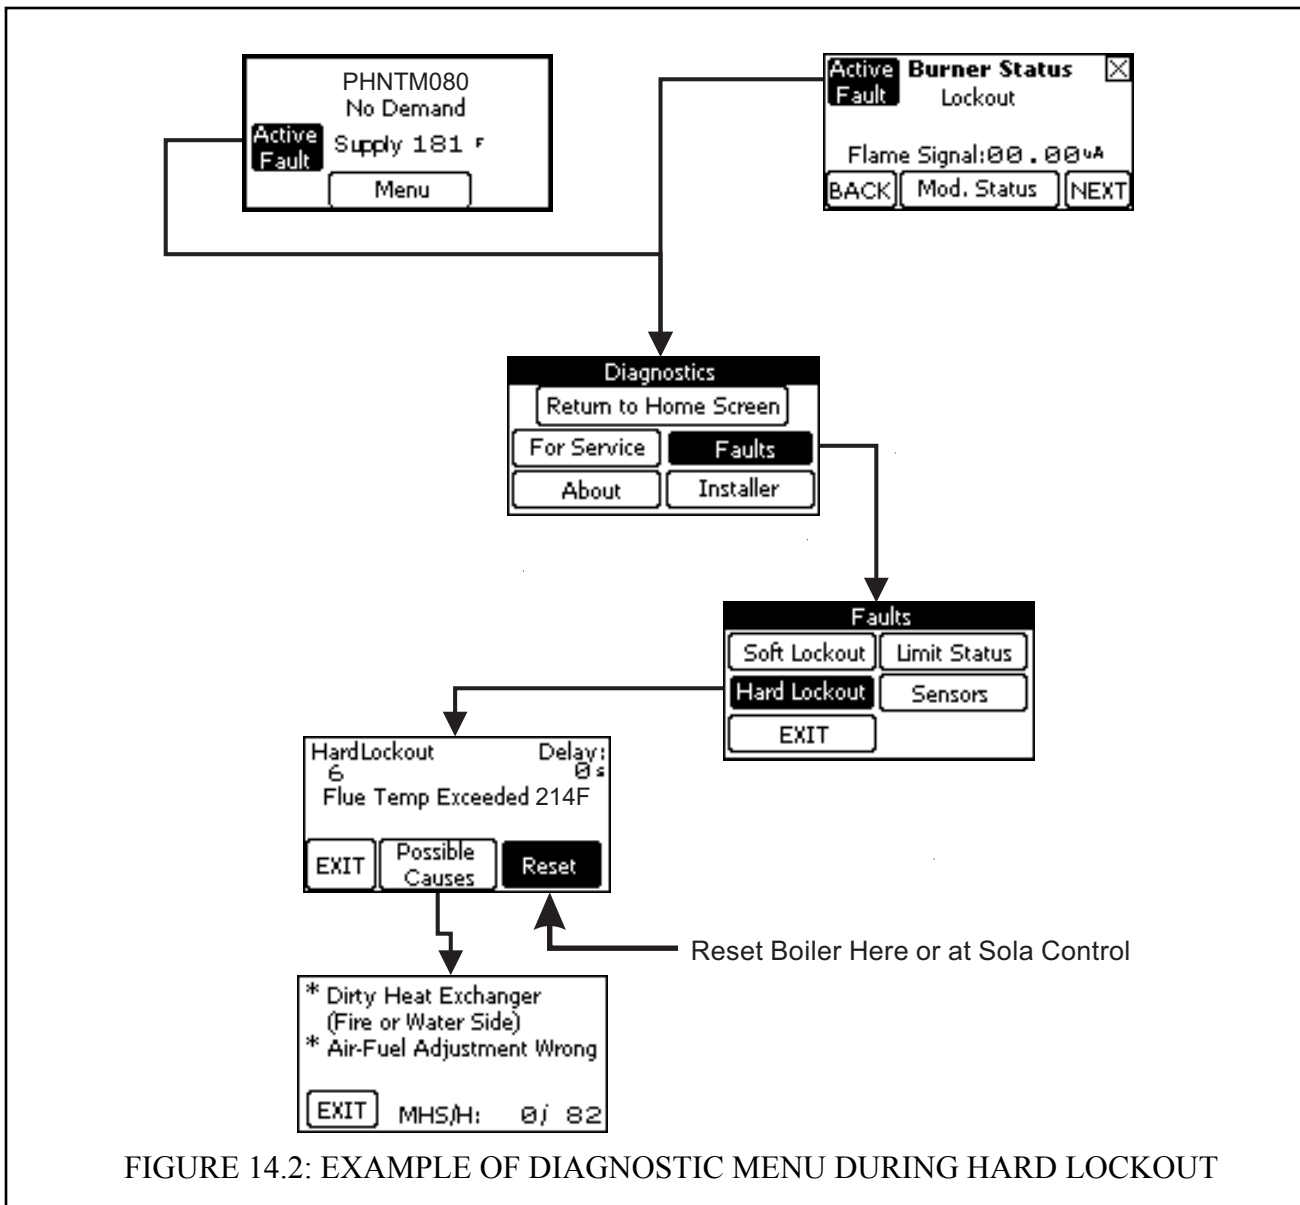

FIGURE 14.2: EXAMPLE OF DIAGNOSTIC MENU DURING HARD LOCKOUT
- b) **Hard Lockout** - A hard lockout prevents the boiler from firing until the problem has been corrected AND the boiler has been manually reset. This can either be done at the boiler control itself or on the hard lockout screen. An example of the Fault Menu structure during a hard lockout is shown in Figure 14.2.